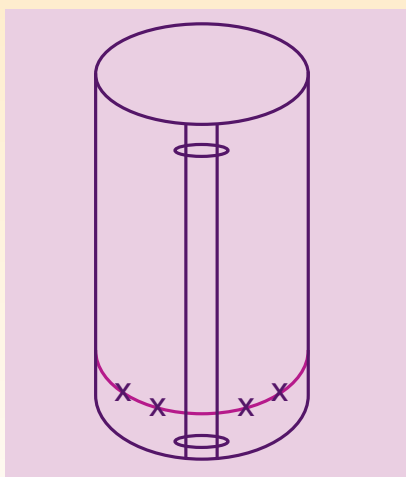

Figure 2
- 5) Form the paper into a cylinder with the origin line at the bottom. Staple the paper at the top and bottom edges to hold the cylinder in place - make sure the edges are not touching (Figure 2).